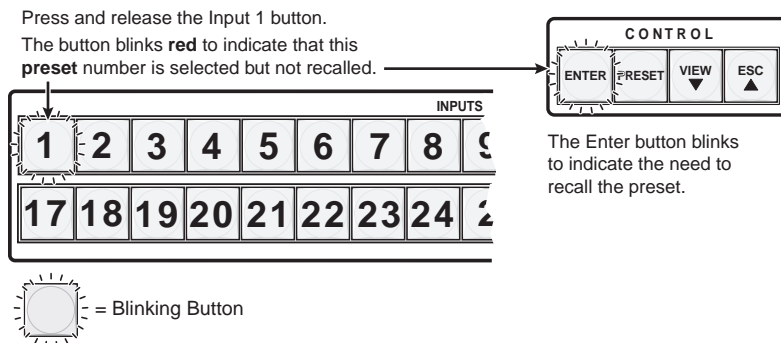

Figure 49. Select the Preset
3. Press and release the input or output button for the desired preset. In figure 49, preset 1 (Input button 1) is selected.